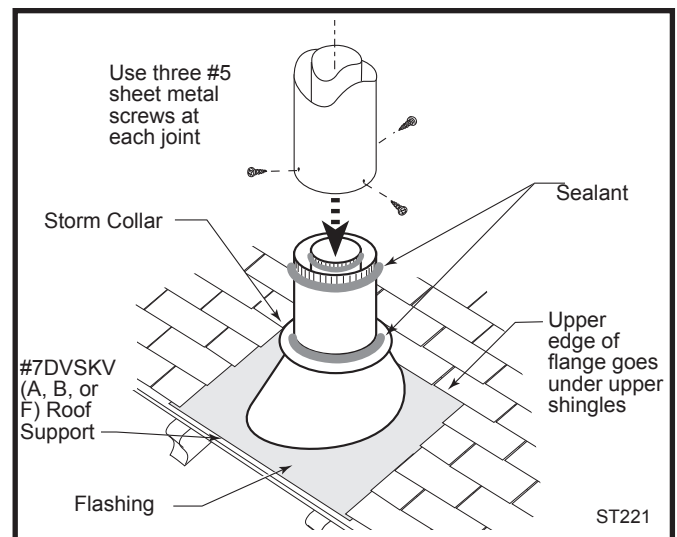

Fig. 33 Roof support and flashing.
7. Install the appropriate roof support and flashing, making certain that the upper flange of the flashing base is below the shingles. (Fig. 33)
9. Install the storm collar and seal around the joints. (Fig. 33)